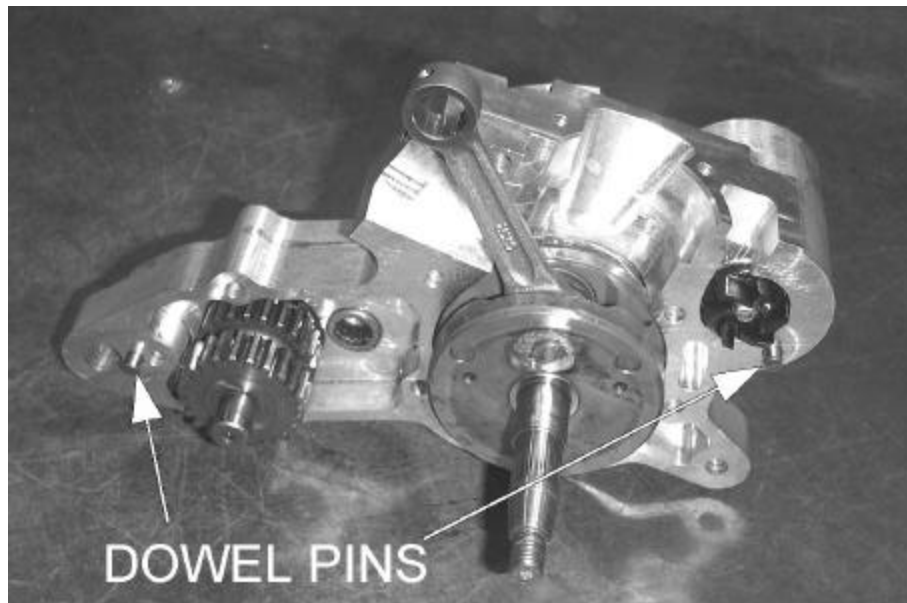

Figure 8
10. Insert dowel pins in the left side case as shown in figure 8.